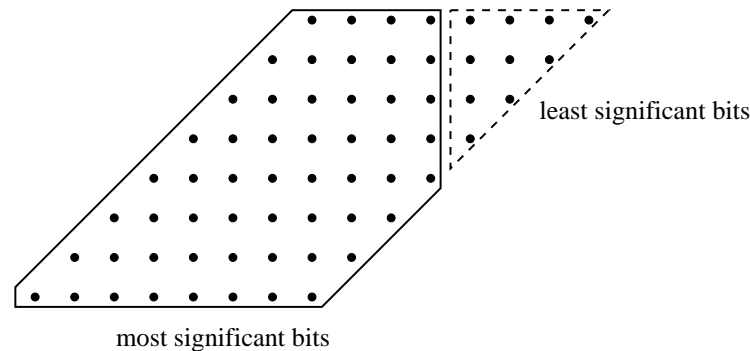

Figure 1
4. Idea: you can do better by reducing the precision. Modify (if needed) your digital filter such that only the most significant part of the multiplication is used (see example in Fig. 1). Then, remove all the adders related to the 6 least significant bits. This solutions will be referred to as *version 2*. Show via simulation the error you obtain on the result.